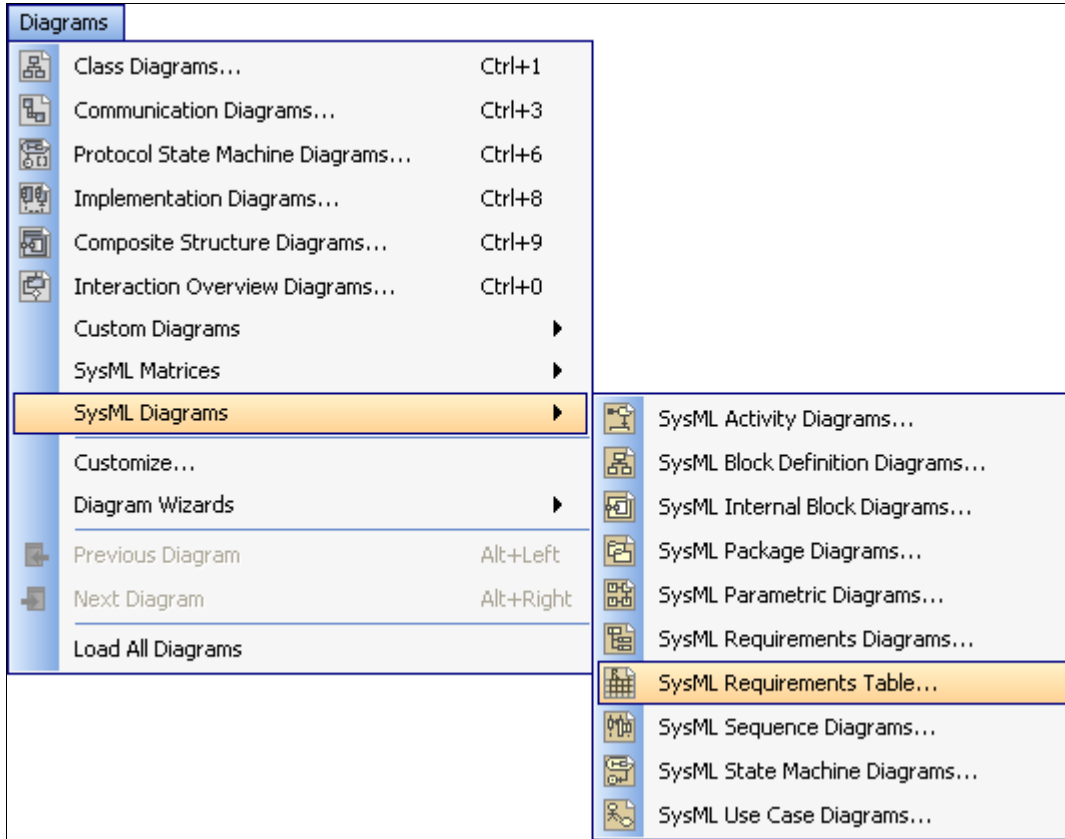
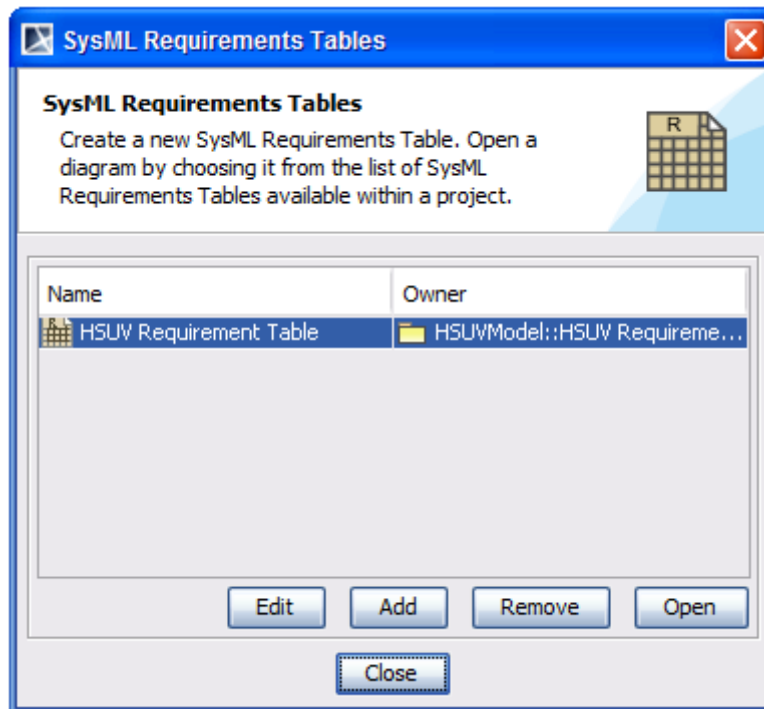

Figure 162 -- Creating SysML Requirements Table Using Main Menu
Figure 163 -- SysML Requirements Table Dialog
1. Click **Diagram > SysML Diagrams > SysML Requirements Table...** on the main menu (Figure 162). The **SysML Requirements Table** dialog (Figure 163) will open.